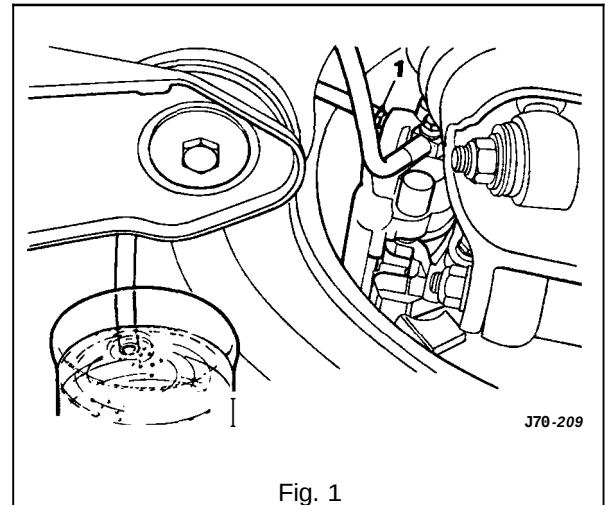

Fig. 1
- Repeat this procedure for the remaining three calipers. (1 Fig. 1) shows the bleeder screw of the rear left caliper.
- Connect the bleeder bottle tube to the relevant front caliper (see 'note' on previous page) bleeder screw (1 Fig. 1) and open the screw.